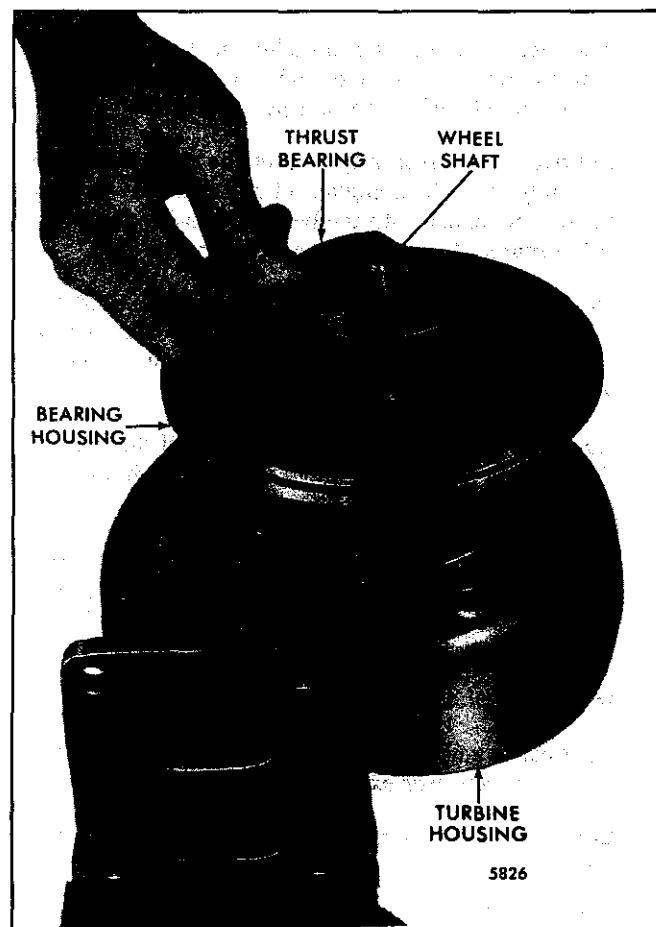

Fig. 16 - Install Thrust Bearing in Bearing Housing
7. Lubricate the thrust faces on both side of the thrust bearing and install the bronze side of the bearing over the shaft and groove pins, engaging the pins to the holes in the thrust bearing (Fig. 16).